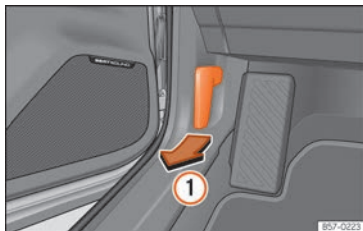

Fig. 207 Release lever in the driver's footwell area.
- Open the door and pull the lever under the dashboard »» Fig. 207 ①.